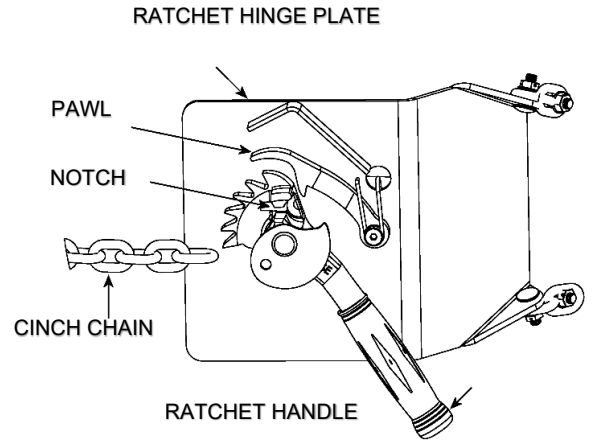

Figure 3.2
3. Attaching drum: Drape cinch chain across front of drum and engage chain link into notch in ratchet (Figure 3.2). Turn ratchet clockwise to tighten cinch chain. If ratchet turns until pawl is beyond last ratchet tooth, turn ratchet back and slide next link into ratchet notch and try tightening again. Cinch chain must be held tightly against drum with pawl engaged securely in ratchet teeth.